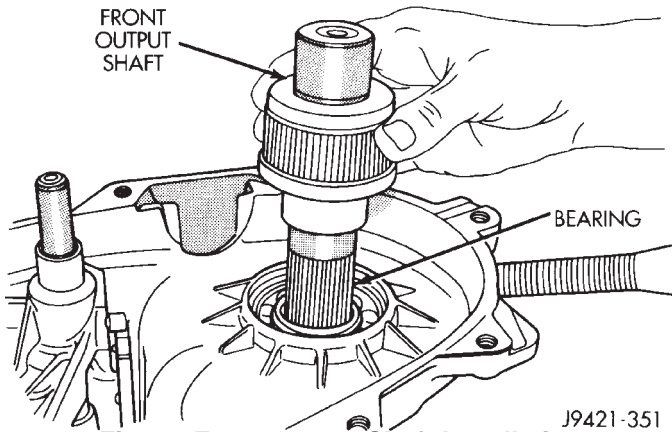

Fig. 89 Front Output Shaft Installation
- (1) Install front output shaft in bearing (Fig. 89).